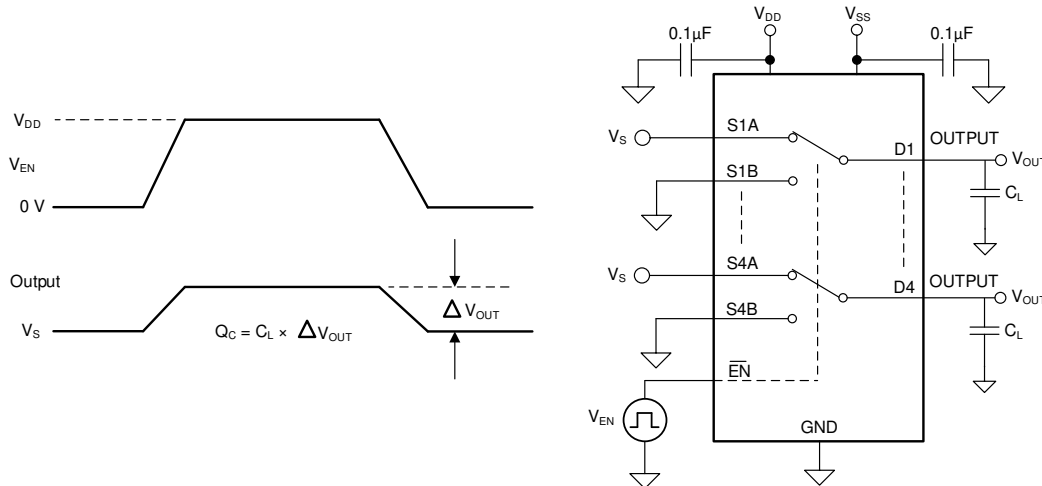

图 22. Charge-Injection Measurement Setup
The TMUX1133 has a transmission-gate topology. Any mismatch in capacitance between the NMOS and PMOS transistors results in a charge injected into the drain or source during the falling or rising edge of the gate signal. The amount of charge injected into the source or drain of the device is known as charge injection, and is denoted by the symbol Q_C . 图 22 shows the setup used to measure charge injection from source (Sx) to drain (D).